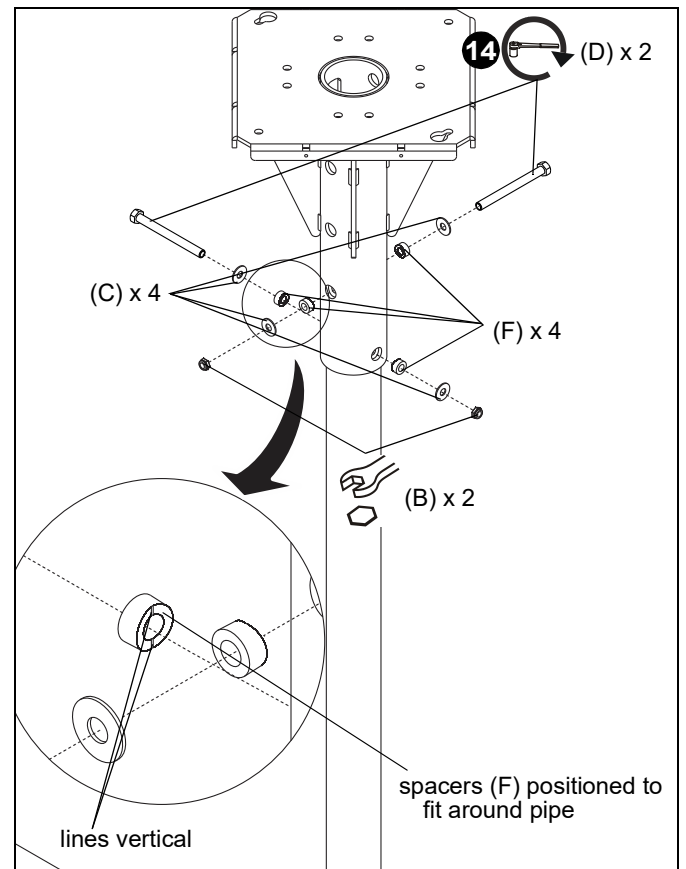

Figure 8
14. Use two 3/8-16 x 4 1/4" hex head bolts (D), four washers (C), four spacers (F) and two 3/8-16 hex nuts (B). (See Figure 8)